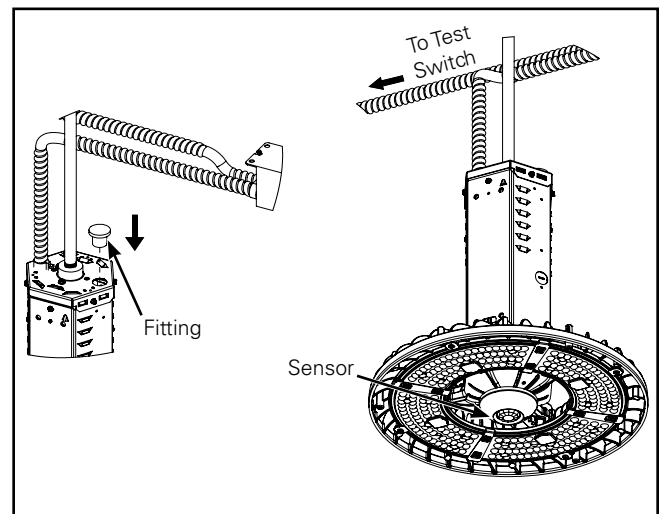

Figure 9.
6. Cover KO with fitting provided. (Figure 9).